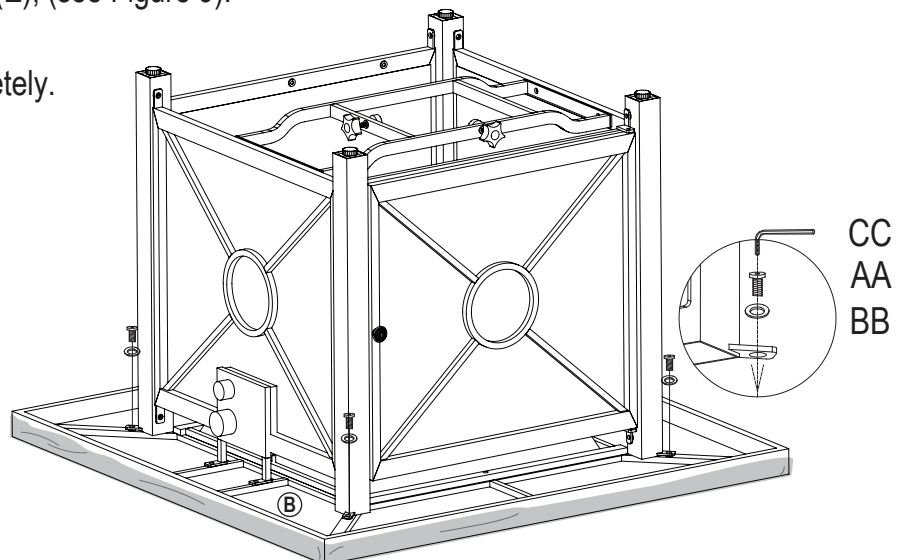

Figure 9
9. Place table top (B) on a non-abrasive flat surface to prevent scratching. Attach base assembly to table top assembly (B) with bolts (AA) and washers (BB) using hex screw driver (CC). Make sure the control panel just covers up the notch on right panel (E), (see Figure 9).